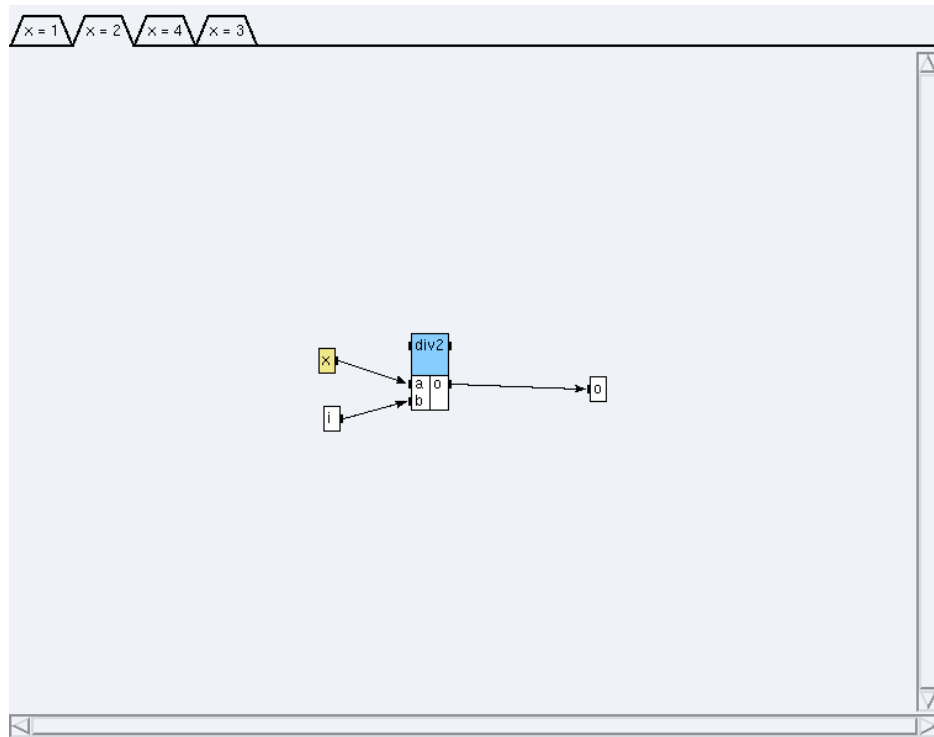

Figure 5.3: Condition $x=2$
- * click on the condition `x=2` (*cf.* figure 5.3) and create a reference `div2<1>` to the definition `int/Arit_div`,